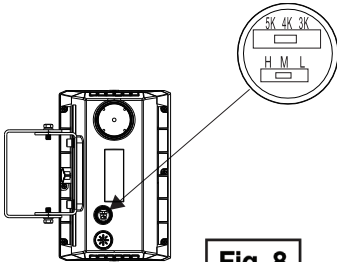

Fig. 8
2.) Adjust the color temperature switch to the desired CCT (all models) and the power switch to the desired wattage (-WCS models only) (Fig. 8).